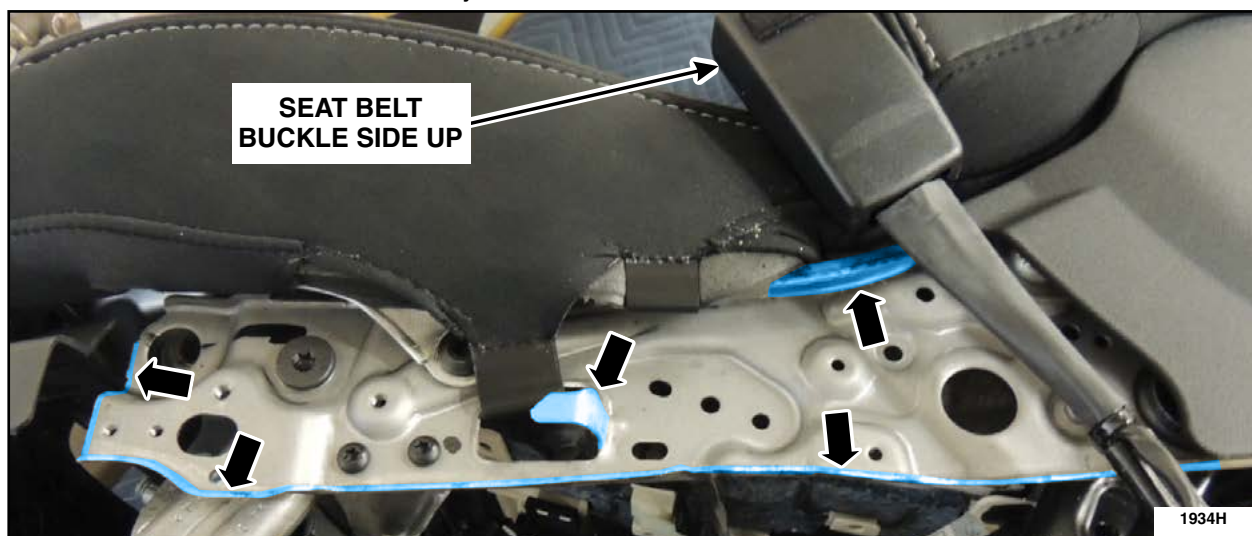

FIGURE 1
- 2. Scuff the highlighted areas using a Scotch-Brite pad. Using Isopropyl Alcohol and a disposable white paper towel, clean the highlighted areas until no visible oil or residue is present on the paper towel. See Figure 1.*